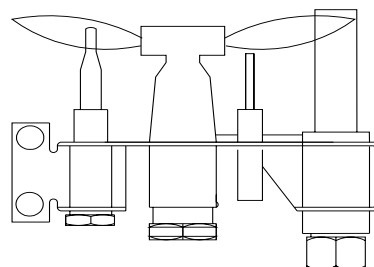

Figure 18. Pilot Burner.
- Adjust pilot key to provide properly sized flame. (See figure 18).